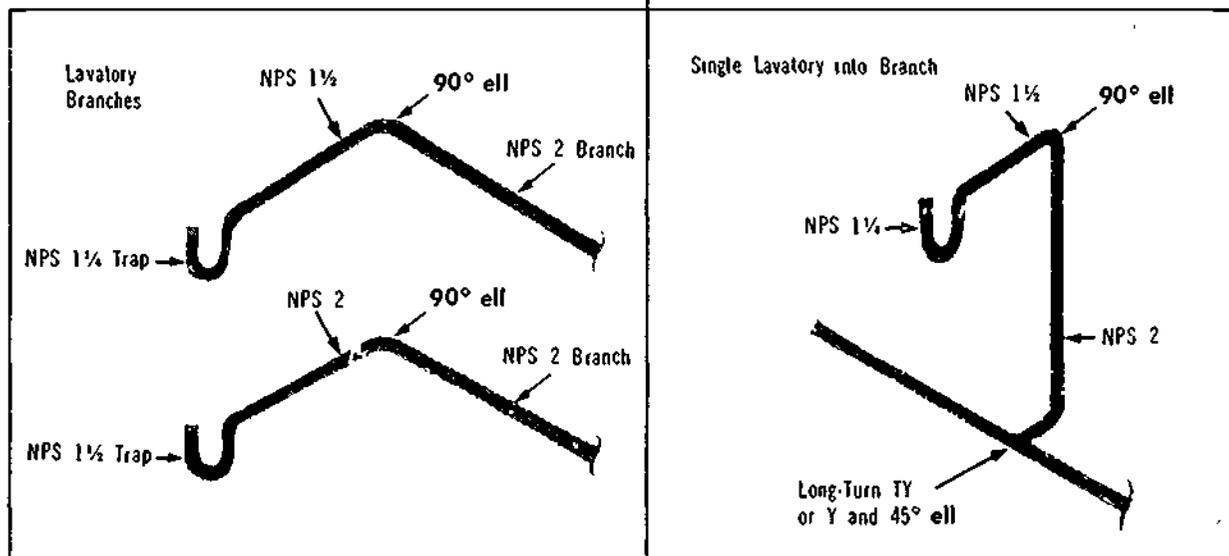

Figure 37-12. Lavatory Trap Arms and Branches
31. A lavatory with an NPS 1½ trap should have an NPS 1½ trap arm, and one with an NPS 1½ trap an NPS 2 trap arm. In the usual case of an NPS 1½ chrome trap, this increase in size can be carried out at the wall very conveniently by using any of the three ells shown at the bottom of Figure 37-12. Downstream of the ell the branch size should be NPS 2 whether horizontal or vertical.
32. A 90° DWV ell can be used for horizontal and vertical changes in direction of the branch of one lavatory, but two 45° DWV ells should be used if there are two lavatories or more than two 90° changes in direction. Note the details of some typical configurations in Figures 37-12 and 37-13.